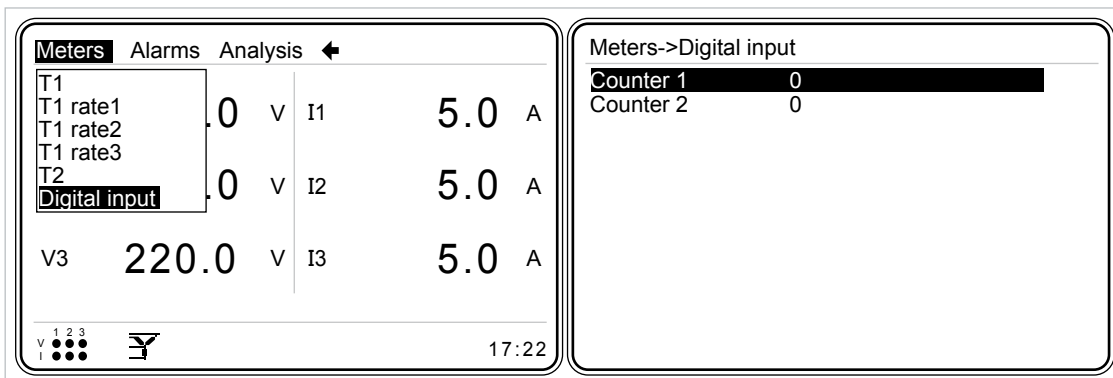

Figure 3-31 Digital Input1 Counter
- Assume that for digital input 1, 'Counter' is selected as the mode setting. Under this condition, each time DI1 and GND pins are short-circuited, "Meters->Digital input->Digital input1 counter" counts (Figure 3-31).